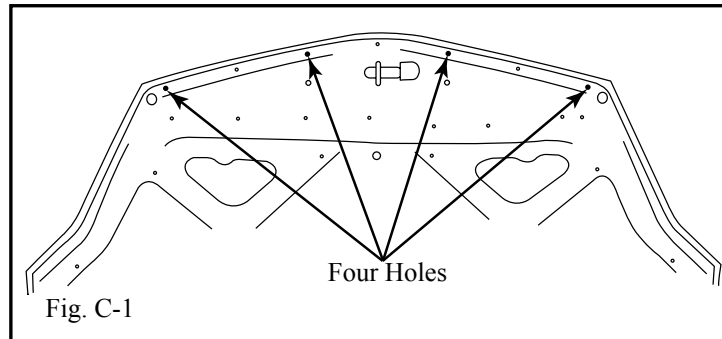

Fig. C-1
2. Line up the shield with the existing holes in the hood, making sure the shield is centered. (Figure C 1)